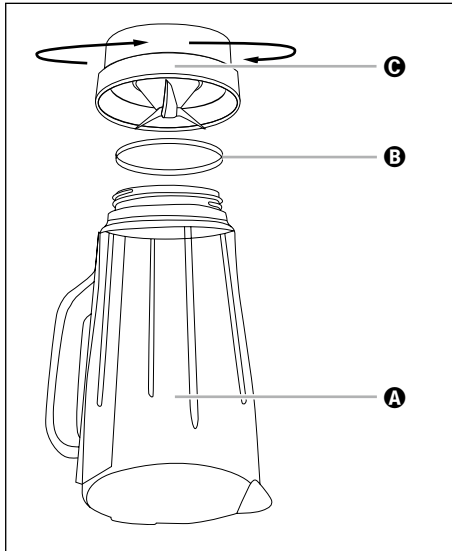

Fig. 4
- 2) Turn the appliance upside down and turn the plastic part ③ of the blender ③ anticlockwise so that it can be detached from the glass part ① of the blender attachment ③ (see fig. 4).
- 4) You can carefully remove the sealing ring ③ from the plastic part ③ if necessary. Clean in mild soapy water and rinse with clear water.
- 6) If necessary, reinsert the sealing ring ③ into the plastic part ③ correctly. Then place the plastic part ③ of the blender ③ back on the glass part ① of the blender ③ and turn the plastic part ③ clockwise.